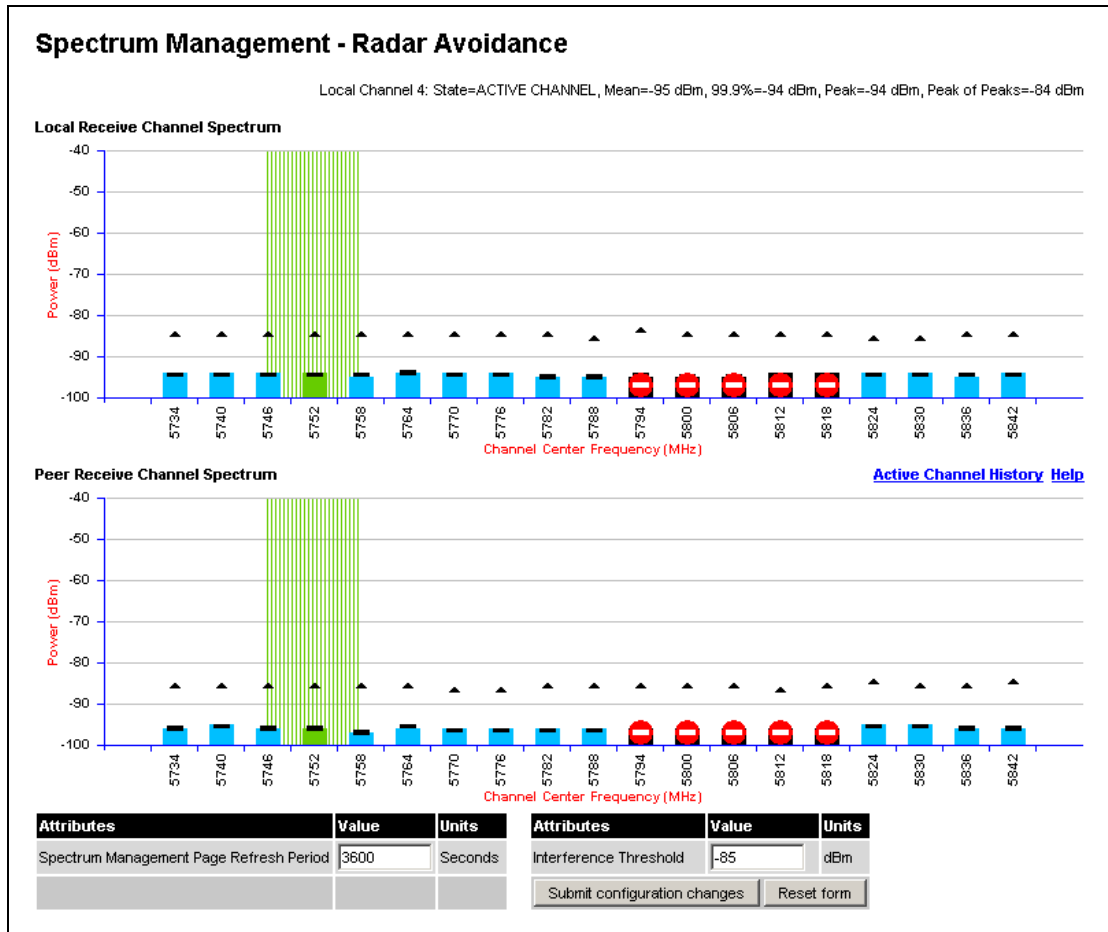
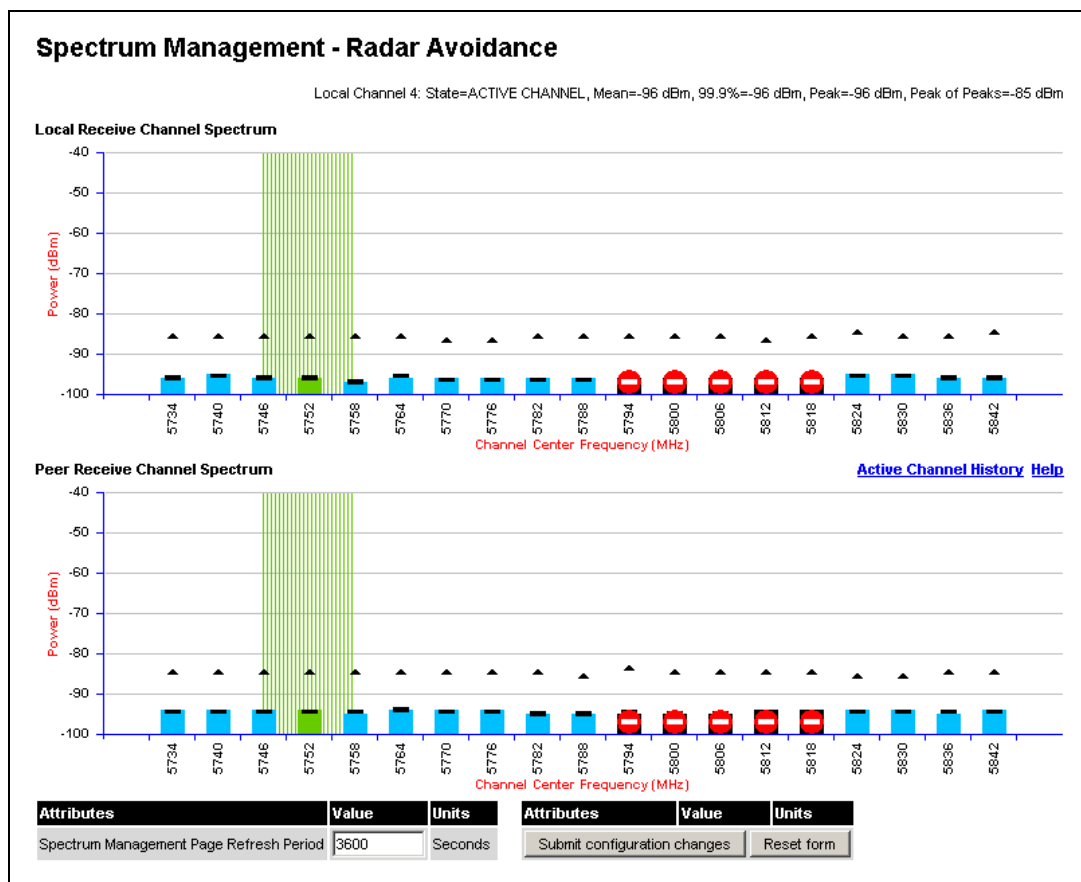

Figure 64 - Spectrum Management Master Screen with Operational Restrictions
Figure 65 - Spectrum Management Slave Screen with Operational Restrictions
- The words "Radar Avoidance" are appended to the "Spectrum Management" title at the top of the screen. See Figure 64 and Figure 65.
- The only controls available to the master are the Interference Threshold attribute. This has no affect on the operation of the wireless link and will only affect the generation of the channel spectrum graphics. See Figure 64.
- A channels marked with a 'no entry' symbol with their associated statistics colored black are the prohibited channels. See Figure 64 and Figure 65. These channels are never used to host the wireless link, but interference measurements are still taken so that adjacent channel biases can be calculated correctly and so the user can see if other equipment is in use.